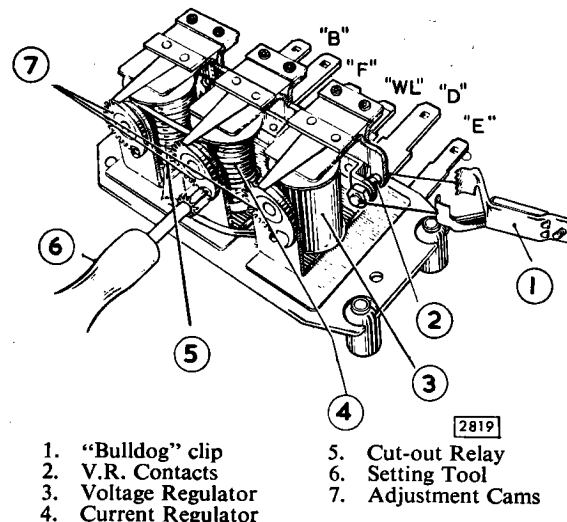

Fig. 24. The cam adjuster on the R.B.340 control box. Note the bulldog clip closing the voltage regulator contacts.
- (ii) Using a bulldog clip, short out the contacts of the voltage regulator. (see Fig 24).